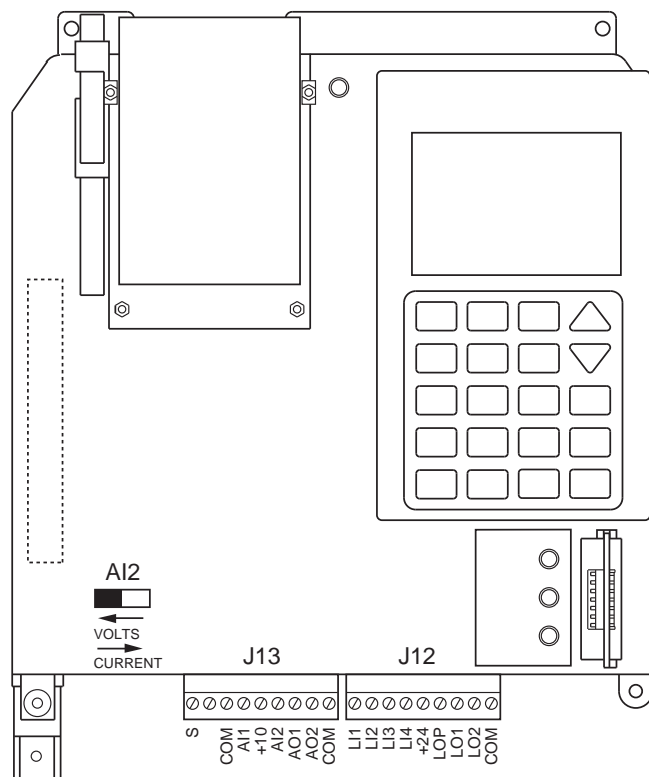

Figure 9: Terminal Strip Connections for Control Board
- When using the metal conduit entry plate (kit VY1A66201) with ATV56U41N4 to D23N4 and ATV56U41M2 to D16M2 drive controllers, the bond wire must be connected to ground (GND) as shown in Figure 9 on page 22.
^[1] For power terminal strip locations, refer to Figure 9 on page 22.